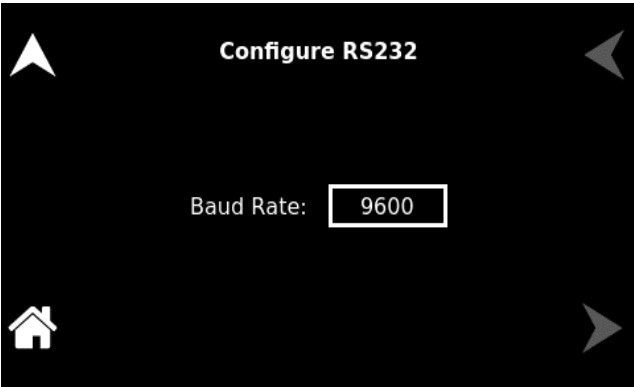
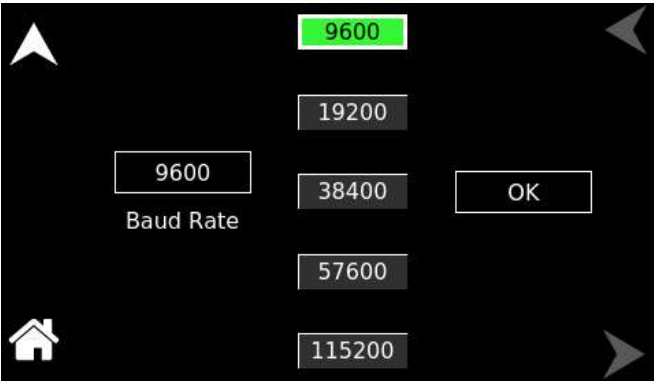

Figure 10-196. RS232 Screen -Configure
Figure 10-197. Baud Rate Selection
- b) **Configure RS232:** Configures the RS-232 Baud Rate, refer to Figure 10-196 and Figure 10-197. This setting must match those set for the communications port of the user external controller.